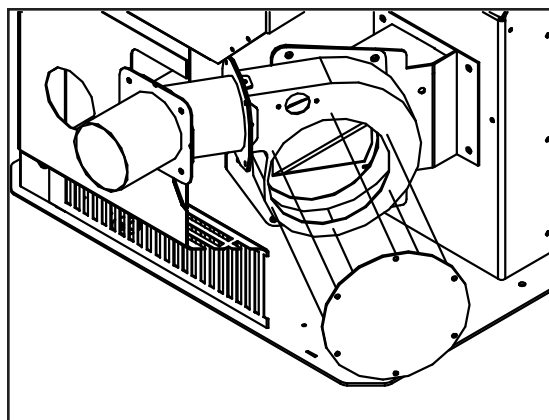

Figure 32: Exterior Blower Kit.
1. Remove the left hand cabinet side by removing the two (2) screws down the front. Loosen the three screws on the back of the cabinet side and remove panel.
2. Loosen the six (6) screws that hold the back grill in place. Lift the back grill off the screws.
3. Disconnect the Exhaust blower wires from the wire harness. Remove the exhaust blower motor from the housing; six (6) screws. Cover hole in housing with cover plate provided (see Figure 32).
5. Install the exhaust blower housing box into the pipe placed through the wall thimble, seal with high temperature silicone. Fasten the box to the wall with (4) four screws, seal edges of box to wall with clear silicone.